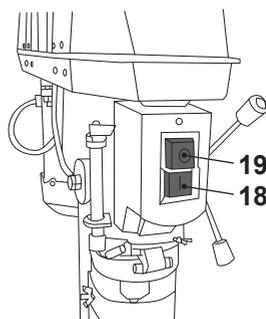

Fig. 15
1. Switch the product on by pressing the green ON button I (18) and wait until the drill bit has reached maximum speed (Fig. 15).
2. Switch the product off by pressing the red Off button O (19).